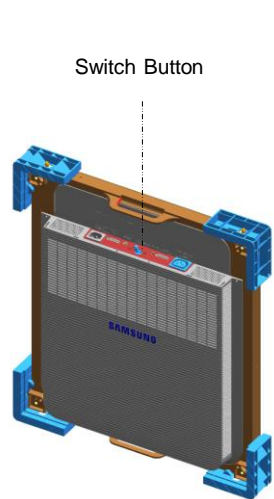

Fig.5 Check the Screen
⑤ Check whether there is any abnormality on the screen by connecting the power cable.(Fig.5)